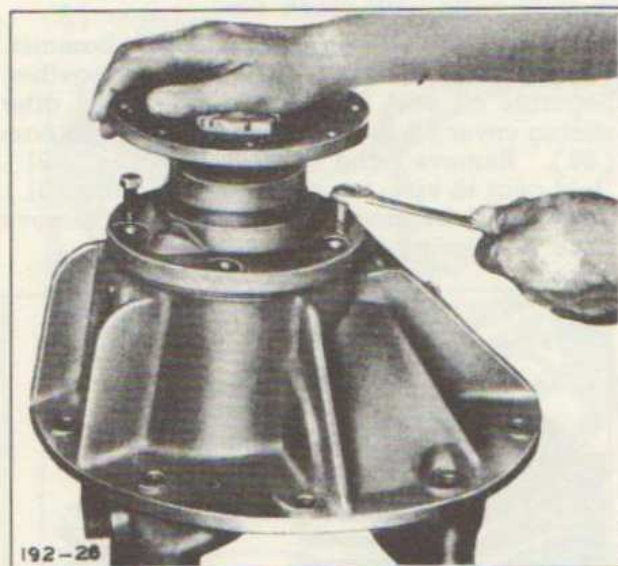

Fig. 19—Removing Bevel Pinion Gear Assembly
Remove bearing retainer screws (21). Insert puller screws into tapped holes of retainer (22), and remove bevel pinion assembly by applying pressure evenly to these screws to avoid binding retainer in housing bore. (See Figure 19).